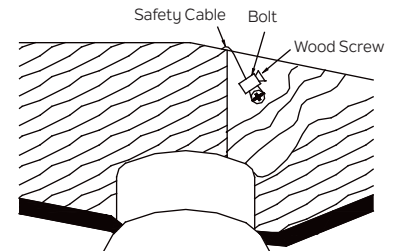

Fig. 15
Step 2. Insert the safety cable through the mounting bracket and one of the holes in the outlet box into the ceiling. Adjust the length of the safety cable to reach the screw and washers by pulling the extra cable through the cable clamp until the overall length is correct, put the end of the cable back through the cable clamp, forming a loop at the end of the cable. Tighten the cable clamp securely. Now, put the loop in the end of the safety cable over the wood screw and under the washer. Tighten the wood screw securely. (Fig. 15)